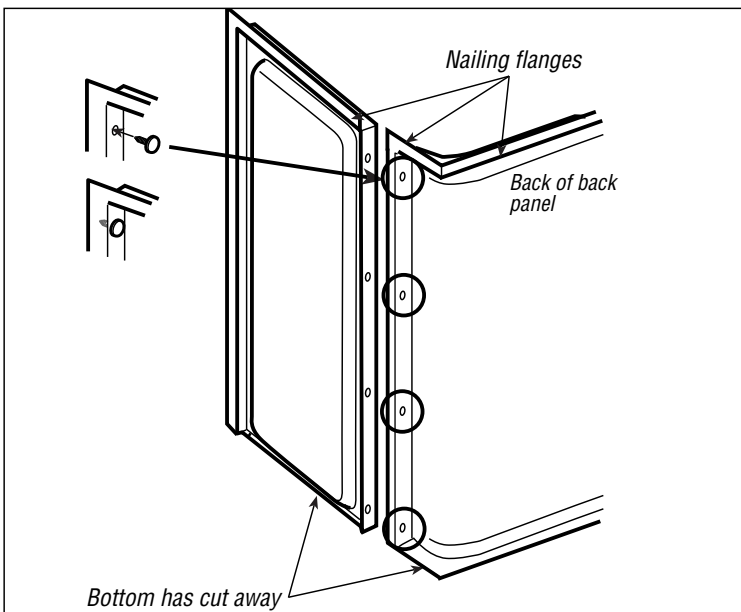

Figure 2
- 3** Install the eight fasteners into the 4 holes on each side of the back panel by firmly pushing the fasteners from the back side of the panel. Once installed, the fasteners will protrude (Figure 2). Set the back panel into the alcove against the studs. Place each side panel in position and slide back until fasteners push through the holes on each side panel. **Note: The fasteners are not designed to "lock" the panels in place, but to allow the panels to line up appropriately.** Check fit before proceeding.